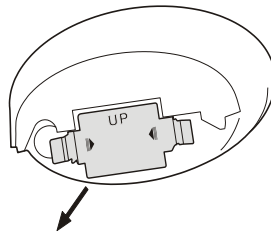

Fig.4
1. Press the "key" on the battery cover in the direction of the arrow, pull out the battery cover. (Fig.4)